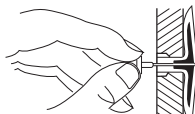

Figure 9 - Popping Open Anchor Wings For Thin Walls
4. For thin walls (1/2" or less), insert red key into wall anchor. Push red key to "pop" open anchor wings (see Figure 9). **IMPORTANT:** Do not hammer key! For thick walls (over 1/2" thick) or solid walls, do not pop open wings.